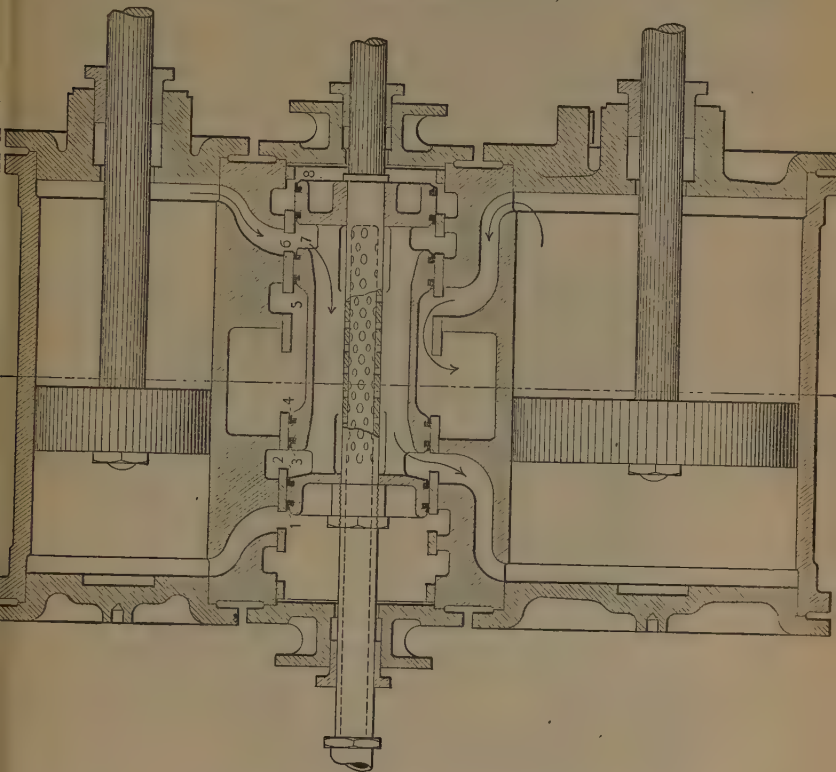

Fig. 376. Showing Valve Packing Rings.
Q. Referring to Fig. 376, which rings govern steam admission to the H. P. cylinder?